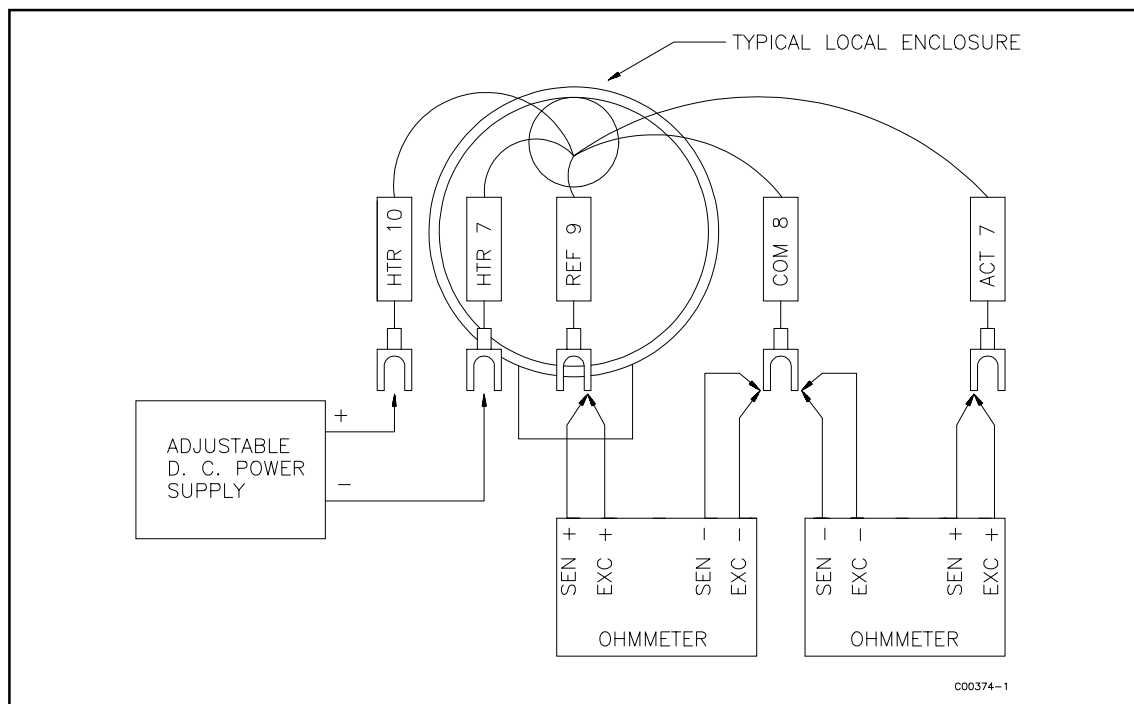

Figure D-1. Sensing Element Calibration Connections
4. Connect the DMM's and the power supply to the sensing element as shown in Figure D-1.